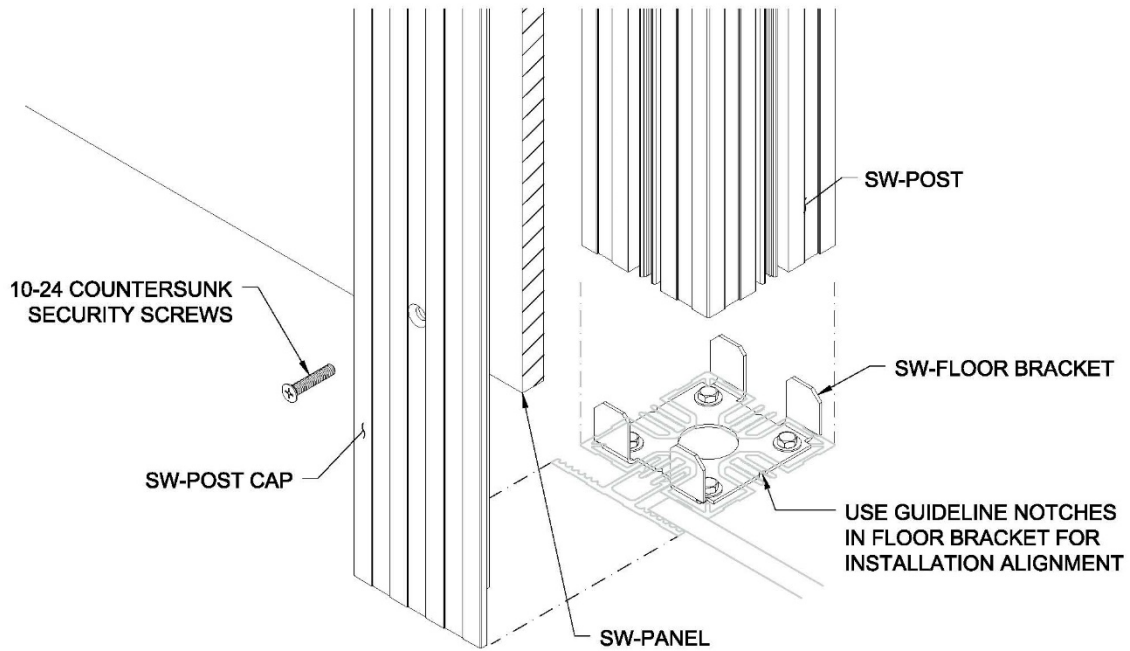

FIG.2
3. Locate floor bracket per layout aligned with center of head track. The floor brackets have locating notches to aid in centering post on established locations. Note orientation of mating parts **FIG.2**.